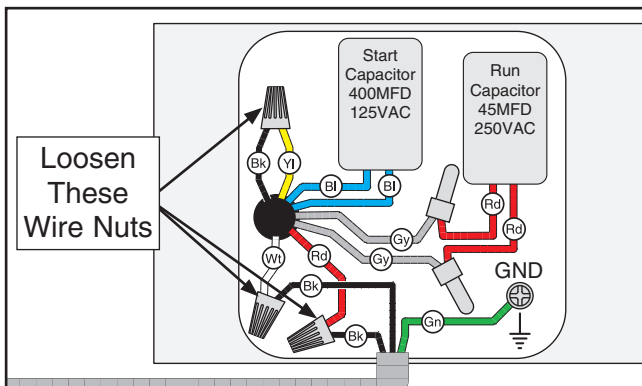

Figure 13. Location of terminal screws to be loosened on Model G0807.
3. Remove motor junction box cover, then loosen all three wire nuts indicated in **Figure 13**.